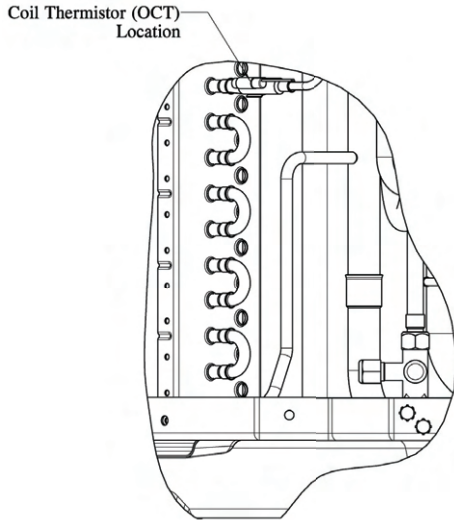
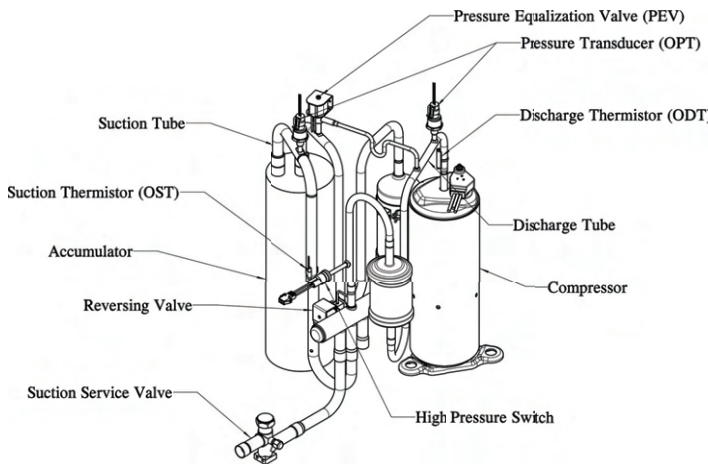

Fig. 29 – Outdoor Coil Thermistor Mounted on Coil
Fig. 30 – Suction Thermistor (OST) and Discharge Thermistor (ODT) Mounting Locations
**IMPORTANT:** The outdoor air thermistor, coil thermistor and suction thermistor should be factory mounted in the final locations. Check to ensure thermistors are mounted properly (See Fig. 28, Fig. 29 and Fig. 30).
The outdoor coil thermistor is a 10Kohm resistor used for multiple system operations. It provides the coil/liquid line temperature to the primary control module and user interface. It is used for low ambient operation, defrost initiation, defrost termination and assistance with OAT temperature measurement. The sensor must be securely mounted to the tube connecting the EXV and distributor. See Fig. 29 for proper placement. See Table 5 for proper resistances.
Suction Thermistor is used for assisting in EXV control and must be secured on the suction tube and aligned longitudinally to the vertical surface of the tube axis (see Fig. 30).
Discharge thermistor is used for protection against over temperature of the compressor and the discharge superheat calculations. Proper mounting is required to ensure that the unit exits the start-up mode. The ODT is located on the compressor discharge stub-out (see Fig. 30).